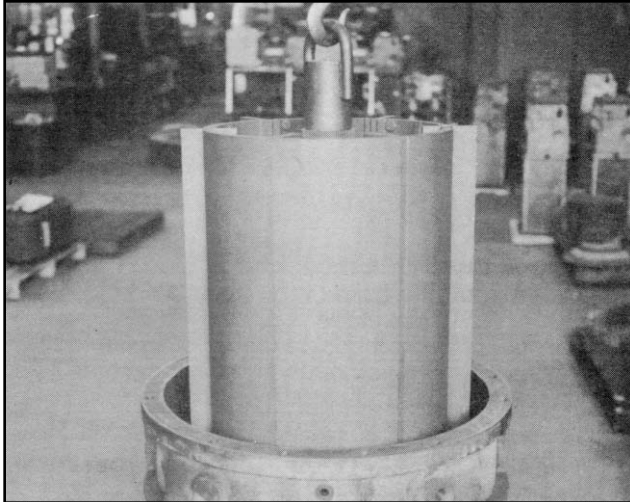

Figure 24
9. Using the lifting plate or shaft nut with loop as described on Page 3, lift the rotor assembly from the inner unit case, Figure 24.